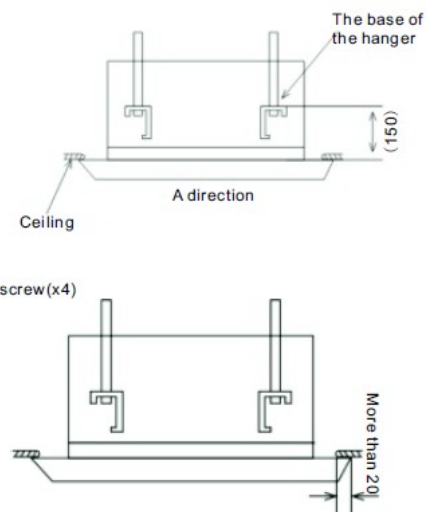
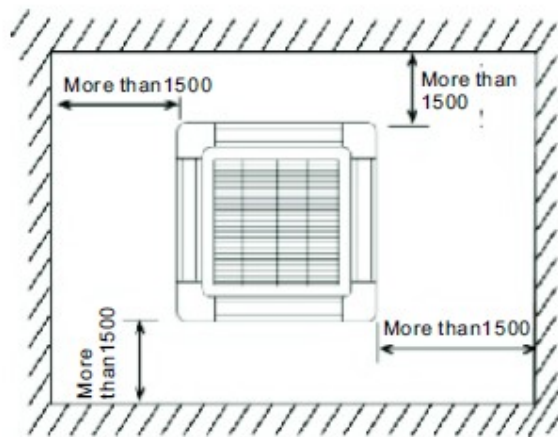
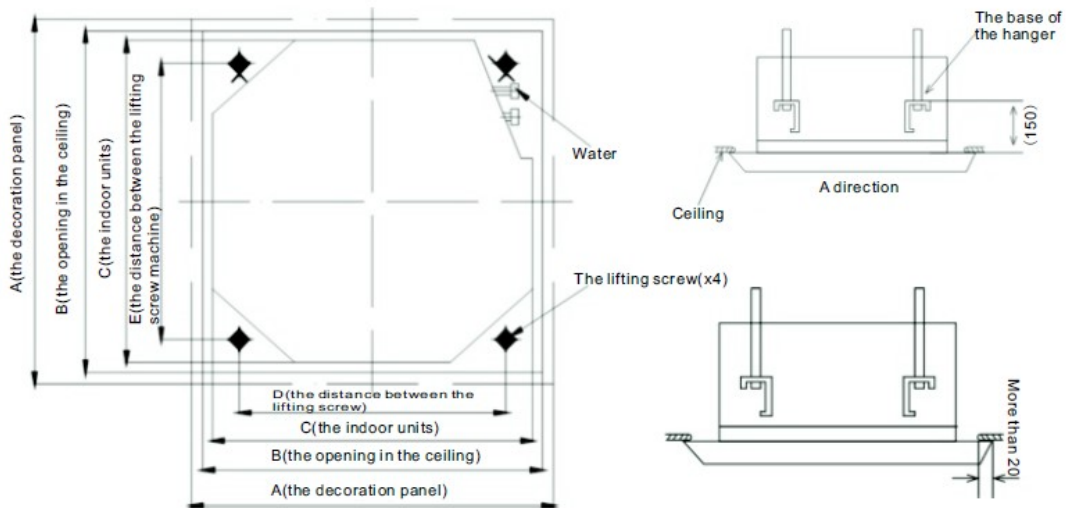

Fig 2
Fig 3
Fig 4
(1) Drill some holes on the ceiling according to the installation paper card (See Fig 2 and Fig4)
(2) Determine the location of installation hook according to holes of the installation hook on four corners of the installation paper card.
- If the ceiling is rather high, cut the installation hook at the middle. Use  $\phi 12$  round steel bar for welding and the length of the steel bar is based on the height of ceiling ( Total length may be obtained from Fig 3: